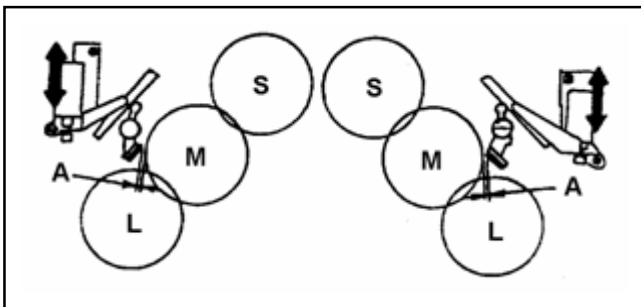

Figure 5-8-2
2. Observe the clearance (A) between Brake pad and it's turntable as shown in Figure 5-8-2. And make sure that it is within 0.2 to 0.5mm.
3. If not, loosen the 2 screws (A), which fixed supply and Take Up Brake Solenoid Unit. And adjust the position of Brake Solenoid Unit by moving in the direction of the arrow so that the clearance (A) is within the specification. And tighten the 2 screws (A).
4. After adjustment, change the reel position to S and L cassette size, and confirm that the clearance (A) is within the specification.